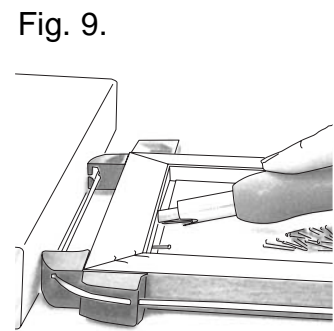

Fig. 9.
- FITTINGS - Backing Nails are placed in the groove on the side of the head of the Ezy-Framer. These are then pushed into the rebate at the back of the frame to secure the backing board in place. A solid block or a FrameCo Frame Stop (See Fig. 9.) will support the frame side and assist with this step. If the timber is hard, then gently hit the Ezy-Framer with a mallet.